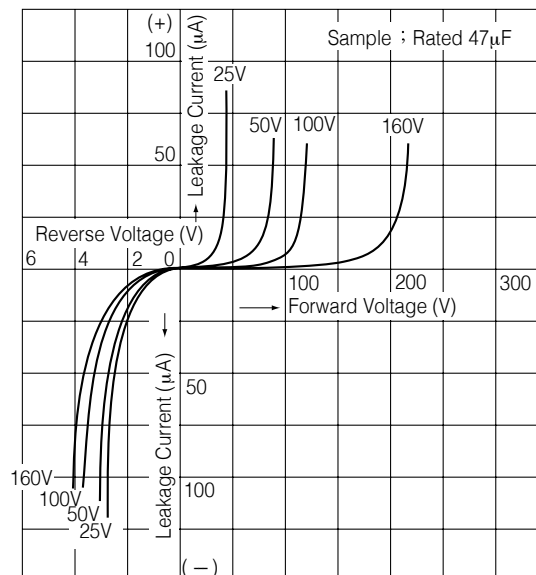

Fig. 2-2 V - I Characteristics
The relationship between the voltage and leakage current when voltage is applied to the aluminum electrolytic capacitor is shown in Fig. 2-2. From Fig. 2-2, the followings can be said;
As Fig. 2-2 shows, the leakage current rises sharply when voltage above the rated voltage is applied. When the withstand voltage of the anode foil decreases due to the generation of heat and the anode foil undergoes insulation breakdown, a large amount of current will flow through and cause the internal pressure to rise within a short period of time. If the pressure relief vent is activated, the electrolyte that has changed to gas is vigorously released from the opened vent. The energy of the capacitor is proportional to the second power of the voltage ($J = \frac{1}{2} CV^2$). Therefore, the higher the applied voltage, the more severe the condition of the activated vent, and the more likely that a short between the foils will occur. Please use capacitors within their rated voltage.
As (Fig. 2-2 V-I Characteristics) shows, the aluminum electrolytic capacitor does not have withstand voltage in the reverse direction. Therefore if the capacitor is used in an AC circuit, an electric current flow which is larger than that calculated from $I = \omega CE$. If the internal resistance of the aluminum electrolytic capacitor is labeled $R (\Omega)$, heat will generate due to the wattage loss $W = I^2 R$ (W) according to the current. The degree of heat is large because the internal resistance of a capacitor is large; thus the pressure relief vent is activated when heat generates and causes the electrolyte to evaporate, causing the internal pressure to rise. Even bipolar capacitors (non-polar), cannot use it for continuous AC application in addition to above.